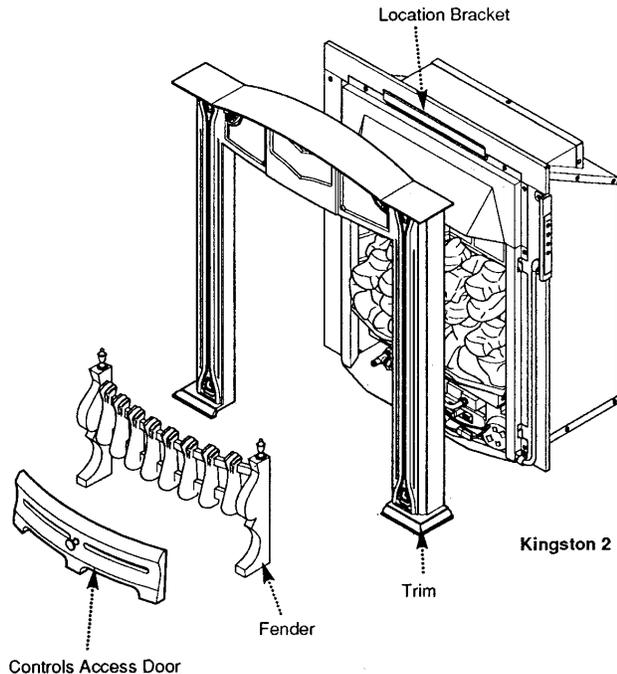

Fig. 32
### 9.3 Kingston 2 Models (Fig. 32)
1. Take the outercase location bracket from the kit and fasten it using the existing 2 screws to the canopy (Fig. 32). This will now mate with the bracket on the back of the trim.